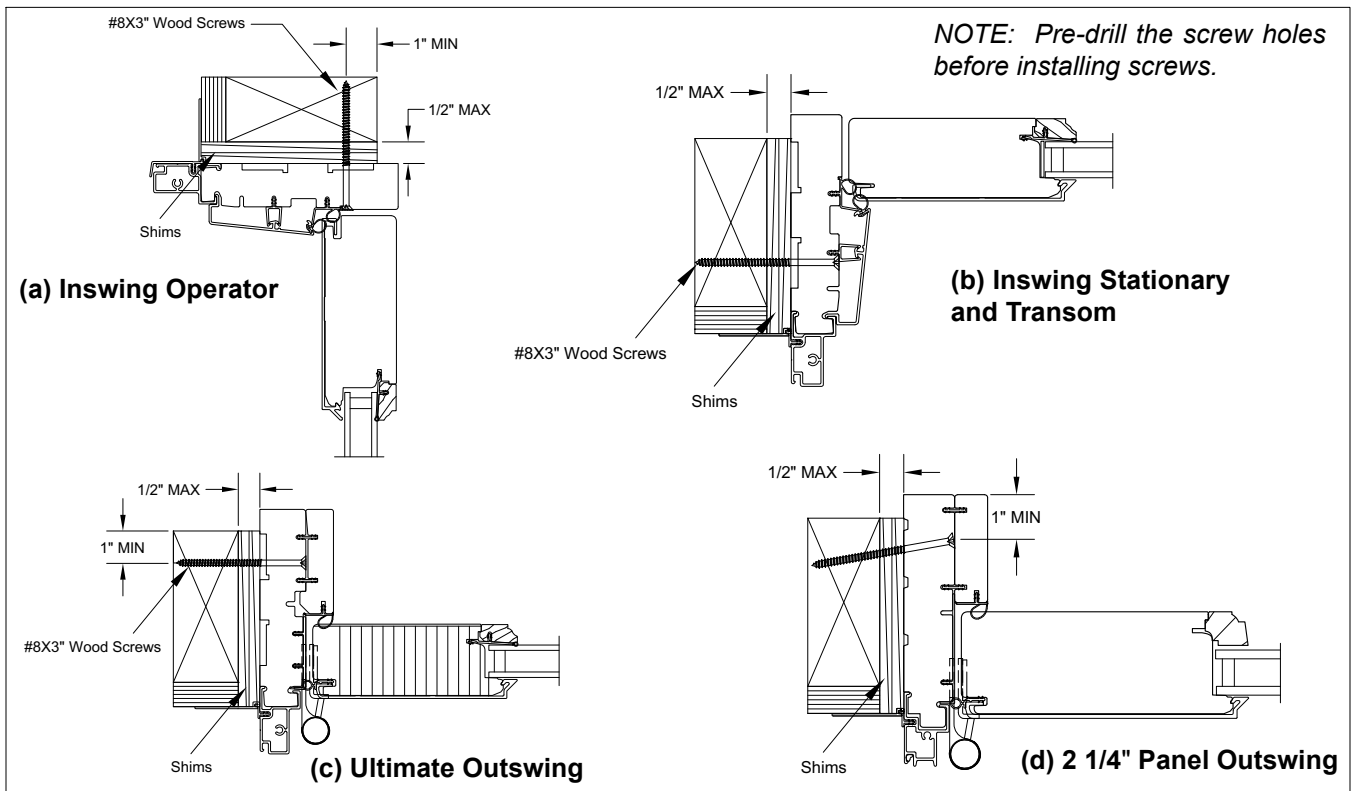

Figure 1
1. **For units utilizing jamb screw installation (Ultimate and Ultimate Wood):** Once the unit has been properly shimmed, plumbed, and squared fasten unit to wood buck/rough opening with minimum diameter of a #8 wood screw. Length of jamb screws may vary depending on type of unit, location and operation of the panel with a minimum buck penetration of 1 1/4" (32). A minimum jamb screw length of 3" (76) is required. Screws must be a minimum of 1" (25) from edge of buck. Place the screw 6" (152) from each corner, maximum 12" (305) on center, with a minimum of 2 per side. See figure 1 for fastening detail and page 3 for exterior stop removal instructions.